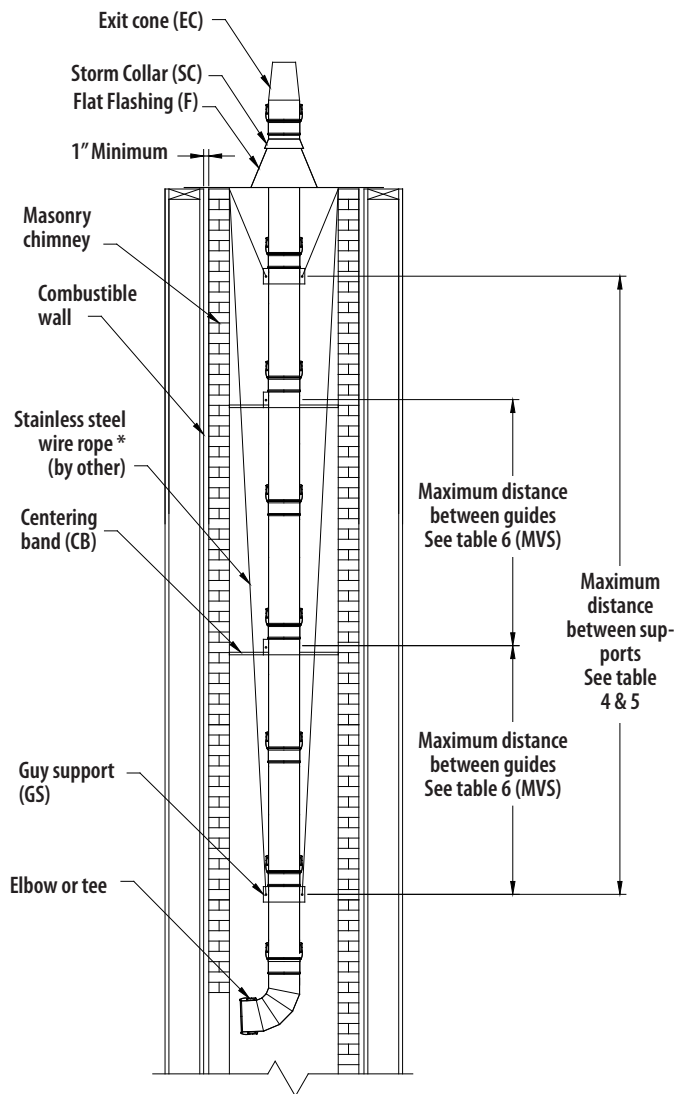

Figure 12 - Installing SecureSeal as a liner
- 2- Make sure the SecureSeal Flex is supported at the bottom of the chimney. Refer to **Figure 12** for guiding and support installation in the masonry chimney.